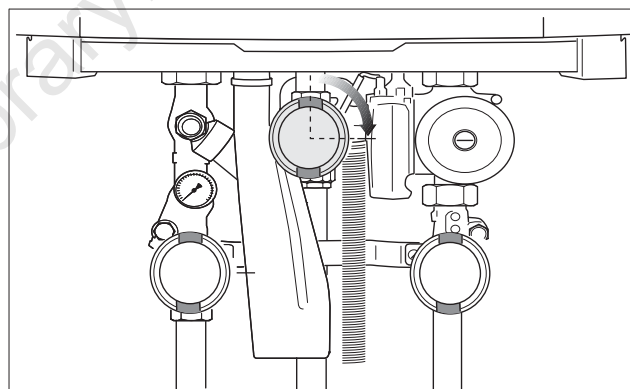

fig. 90 Closing the gas valve
- Close the gas valve in a clockwise direction (fig. 90).
- Close the gas valve (fig. 90).